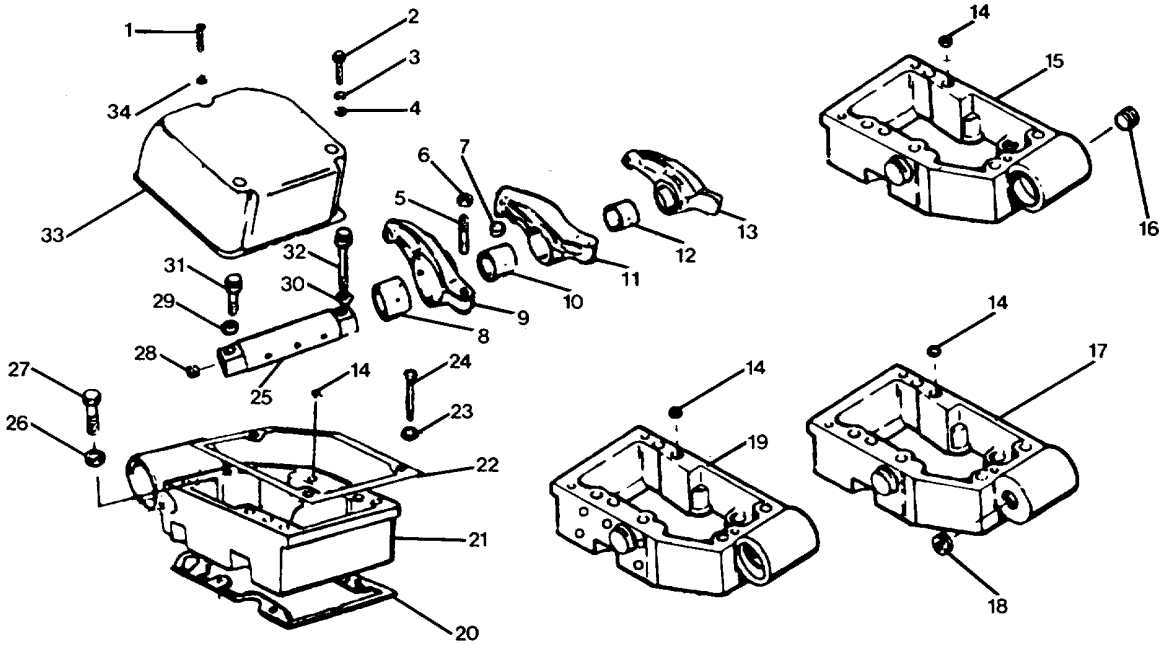

FIGURE 2-28. Rocker Lever Housing Group/Rocker Housing Cover.
- (1) Remove the assembled washer bolt (1, FIG. 2-28) and flat washer (34).
- (2) Remove two hexagon head capscrews (2), lockwashers (3) and flat washers (4).
- (3) Remove dowel ring (14, FIG. 2-28) and pipe plugs (16 and 18) where installed.
- (4) Remove six hexagon head capscrews (24 and 27) and flat washers (26).
- a. Clean the rocker lever housing (33, FIG. 2-28) and inspect as follows:
- (1) Visually inspect the housing for cracks or damage, and replace if necessary.
- (2) Visually inspect the capscrew holes in the housing for damaged threads.
- (3) Visually inspect the rocker lever shaft bore. Remove any burns or sharp edges with emery cloth.
- b. Clean the rocker lever shafts (25) and inspect as follows:
- (3) Check the ball end of rocker lever adjusting screw (5, FIG. 2-28) for damage.
- (4) Replace the adjusting screw if the ball end is out of round or flat at the bottom.
(1) Install rocker lever housing gasket (20, FIG. 2-28) on cylinder head.
(2) Position housing (15, 17, 19 or 21) on cylinder head.
- (4) Install dowel ring (14, FIG. 2-28) and pipe plugs (16 and 18) if required.
The engine intake poppet valve rocker arm (13, FIG. 2-28) must have a blind rivet installed in the oil drilling. The exhaust lever (9) must not have a blind rivet in the oil drilling. The three oil drillings on the shaft (25) that have the same centerline must be toward the end of the rocker lever that contains the adjusting screw. The plug in the shaft main oil drilling must be nearest to the exhaust lever.
(2) Position straight shaft (25, FIG. 2-28) and rocker levers (9, 11 and 13) with sleeve bushings (8, 10 and 12) on housing (21).
- (3) Install two flat washers (29 and 30) and hexagon head capscrews (31 and 32). Do not tighten.